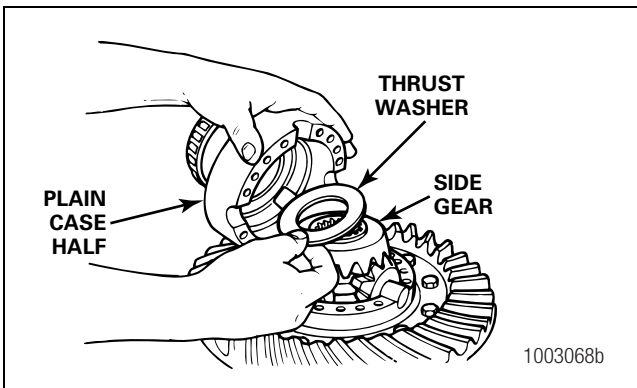
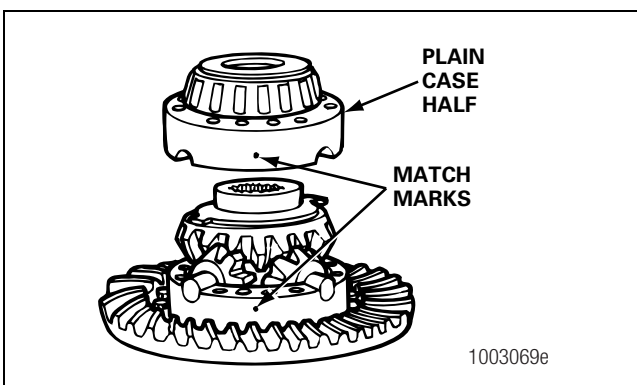

Figure 5.24
Figure 5.25
13. Install the second side gear and thrust washer over the spider and differential pinions. Figure 5.24.
14. Place the plain half of the differential case over the flange half and gears. Rotate the plain half as needed to align the match marks. Figure 5.24 and Figure 5.25.